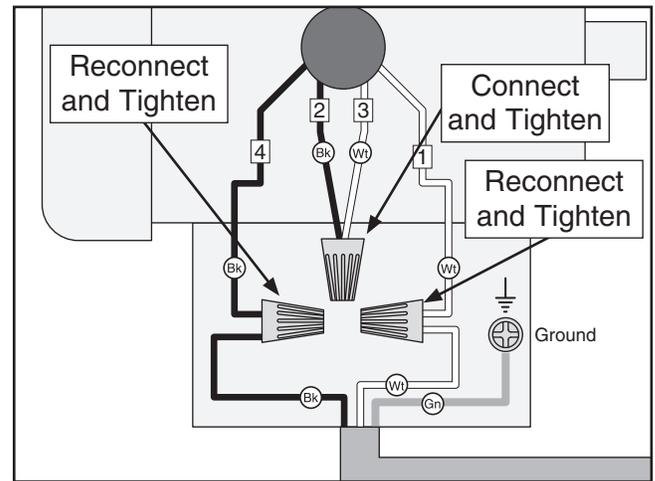

Figure 5. Motor wires repositioned for 240V.
4. Connect the motor wires, as shown in **Figure 5**, with wire nuts. Once snug, wrap electrical tape around each wire nut and the connected wires to reduce the likelihood of the wire nut vibrating loose during motor operation.